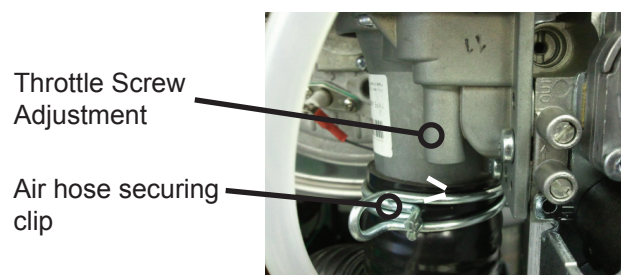

Fig 6.2
To check, re-establish gas and electricity and then run the Boiler for at least 5 minutes. If adjustment is required remove the cover over the Throttle screw and turn anti-clockwise to increase CO2, clockwise to decrease. (Fig. 6.2) Allow at least a minute between adjustments to obtain stable readings. The Gas Rate will be correct when the CO and CO2 figures are to specification.
- After five minutes check the rate and combustion is correct to the Datable. (inside cover). Adjust using the Throttle Screw on the Gas Valve clockwise to decrease CO2, anti-clockwise to increase CO2 if required. (**Fig. 6.2**)